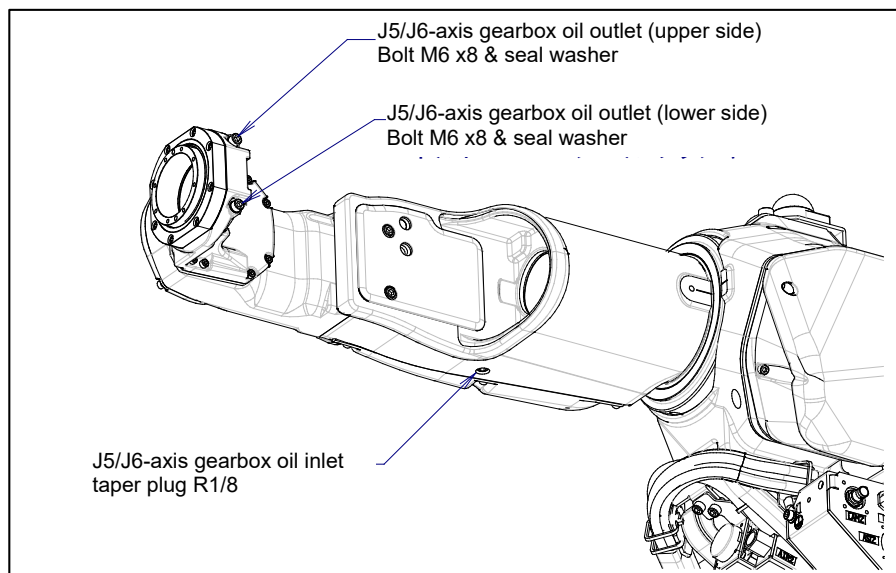

Fig. 7.3.2.5 (a) Oil inlet and outlet
- 4 Remove two bolts and washer of oil outlet. Then remove the taper plug of the oil inlet See Fig.7.3.2.5 (a) In this time, if you remove bolt of oil inlet firstly, you can prevent spilling oil on surroundings.